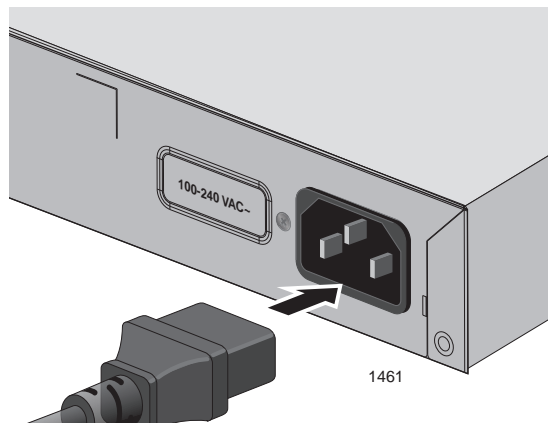

Figure 17. Connecting the AC Power Cord
1. Plug the power cord into the AC power connector on the back panel of the unit (see Figure 17).